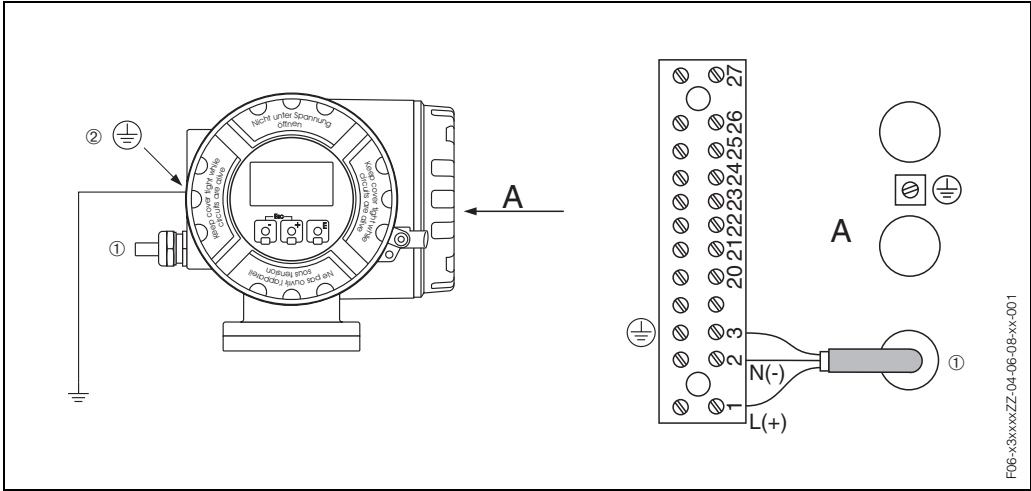

Fig. 1: ① = power supply cable
4. The transmitter must be grounded by means of a ground screw on the outside of the transmitter housing (see Fig. 1).